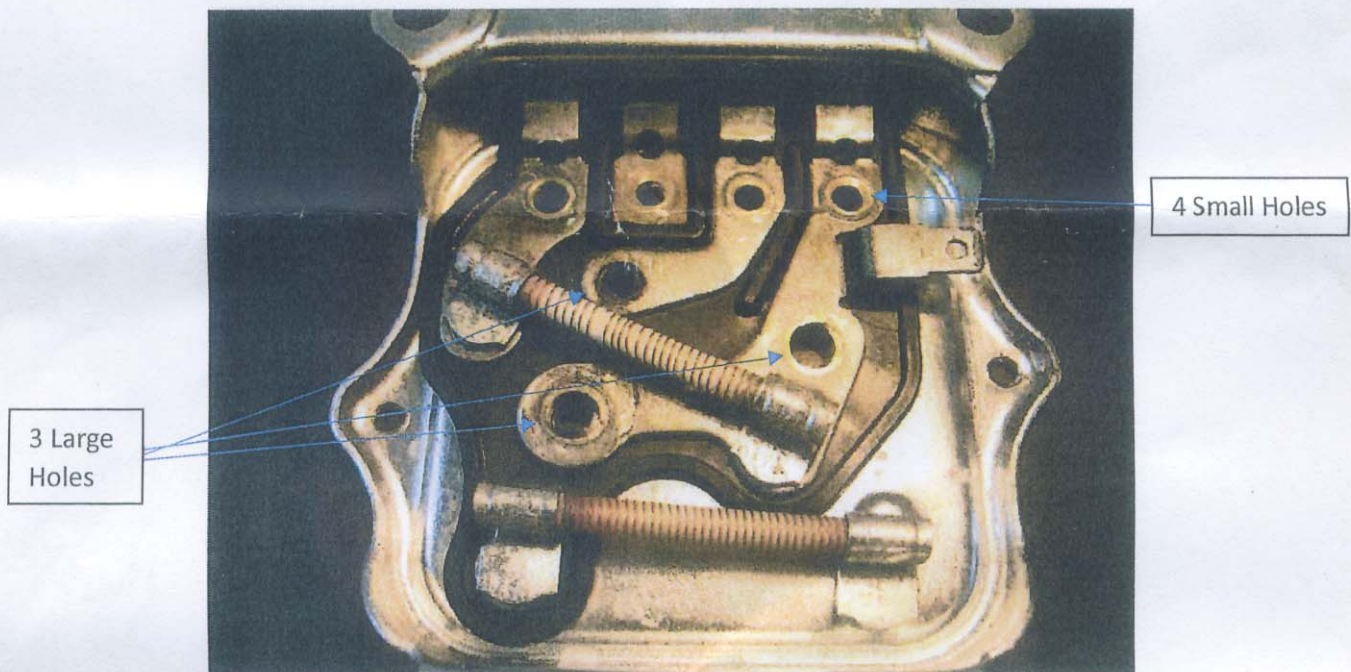

Figure 2
1. The newly created holes in the connection strips must be enlarged to accept the new hardware. Figure 2 below shows 4 small holes which must be enlarged to $5/32''$, and 3 larger holes which must be enlarged to $13/64''$. Use the correct drill bit for each size hole and carefully drill them out to the proper size. Use caution while drilling, as the drill bit may grab as the bit breaks thru the hole.